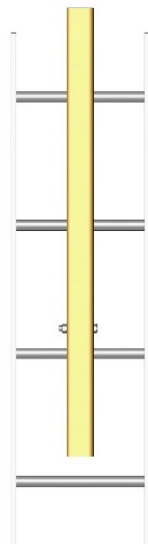

Fig. 3
4. Adjust the Ladder Stanchion Receptacle position to center it into the middle of the ladder rungs (see Fig. 3). **NOTE:** *In certain applications where ladder exit space is limited, the ladder can be offset to one side of the ladder. Since this offset mounting imparts a small amount of swing fall, care must be taken to ensure the offset placement does not put users at risk of hitting obstacles in the event of a swing fall.* Once placed, raise Stanchion Receptacle until ladder rung becomes captured in one of the v-shaped cuts in the rung clamp (see Fig. 4). **NOTE:** *It is preferred that the rungs be captured in the center v-cuts of the rung clamps, but it is not required. Because the spacing of rungs is often variable, not all 3 rungs will be in the same v-cut of the 3 clamps, try and raise or lower the stanchion receptacle and adjust the rung clamps until all three rungs become positioned into one of the v-cuts.*
6. Adjust the Ladder Stanchion Receptacle position to center it into the middle of the ladder rungs (see Fig. 3). **NOTE:** *In certain applications where ladder exit space is limited, the ladder can be offset to one side of the ladder. Since this offset mounting imparts a small amount of swing fall, care must be taken to ensure the offset placement does not put users at risk of hitting obstacles in the event of a swing fall.* Once placed, raise Stanchion Receptacle until ladder rung becomes captured in one of the v-shaped cuts in the rung clamp (see Fig. 4). **NOTE:** *It is preferred that the rungs be captured in the center v-cuts of the rung clamps, but it is not required. Because the spacing of rungs is often variable, not all 3 rungs will be in the*